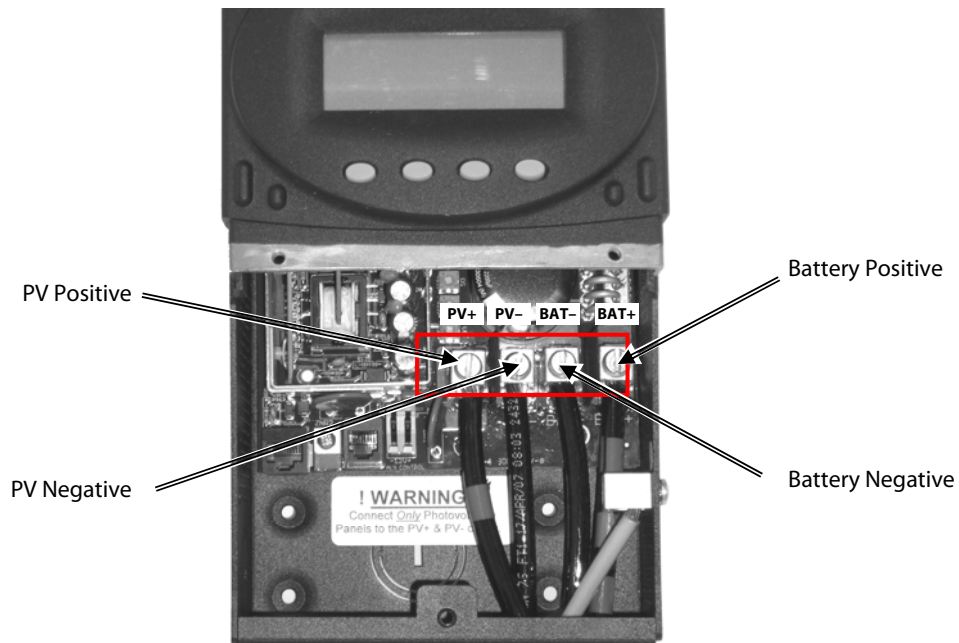

Figure 27 PV Connections in the FLEXmax Charge Controller
2. Connect the PV negative wire to the charge controller's PV negative terminal (see Figure 27).